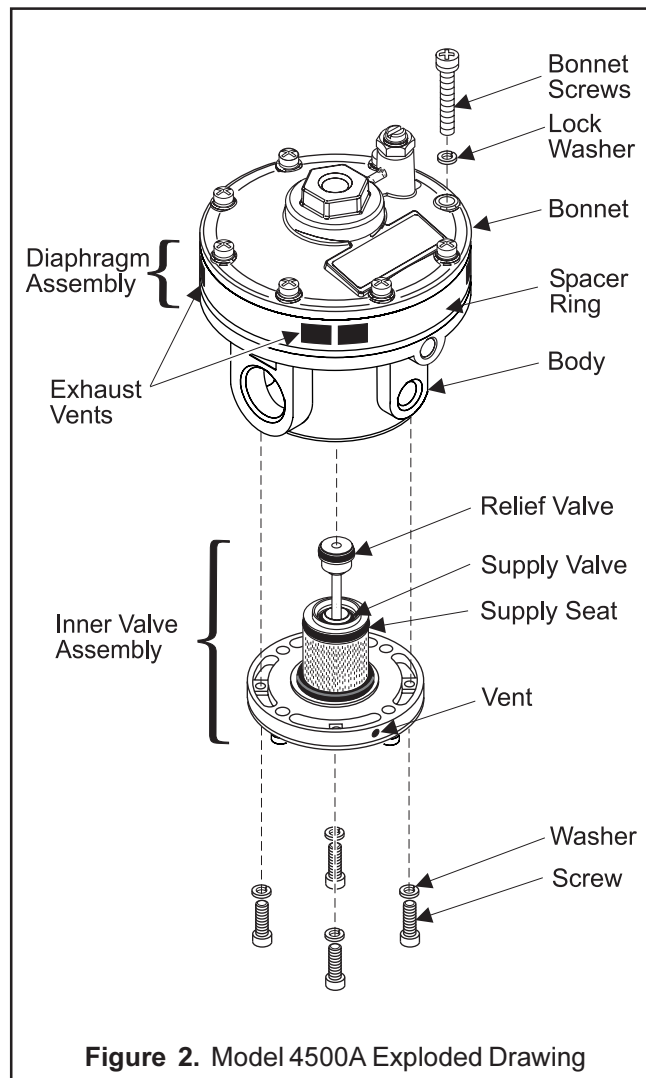

Figure 2. Model 4500A Exploded Drawing
2. Remove the four Screws and Washers (between ports) from the bottom of the unit. For more information, see Figure 2.
3. Remove the Inner Valve Assembly. For more information, see Figure 2.
5. Replace the assembly carefully. Ensure that the Vent in the exterior part of the Inner Valve Assembly and the Exhaust vents in the Spacer Ring are clear. For more information, see Figure 2.